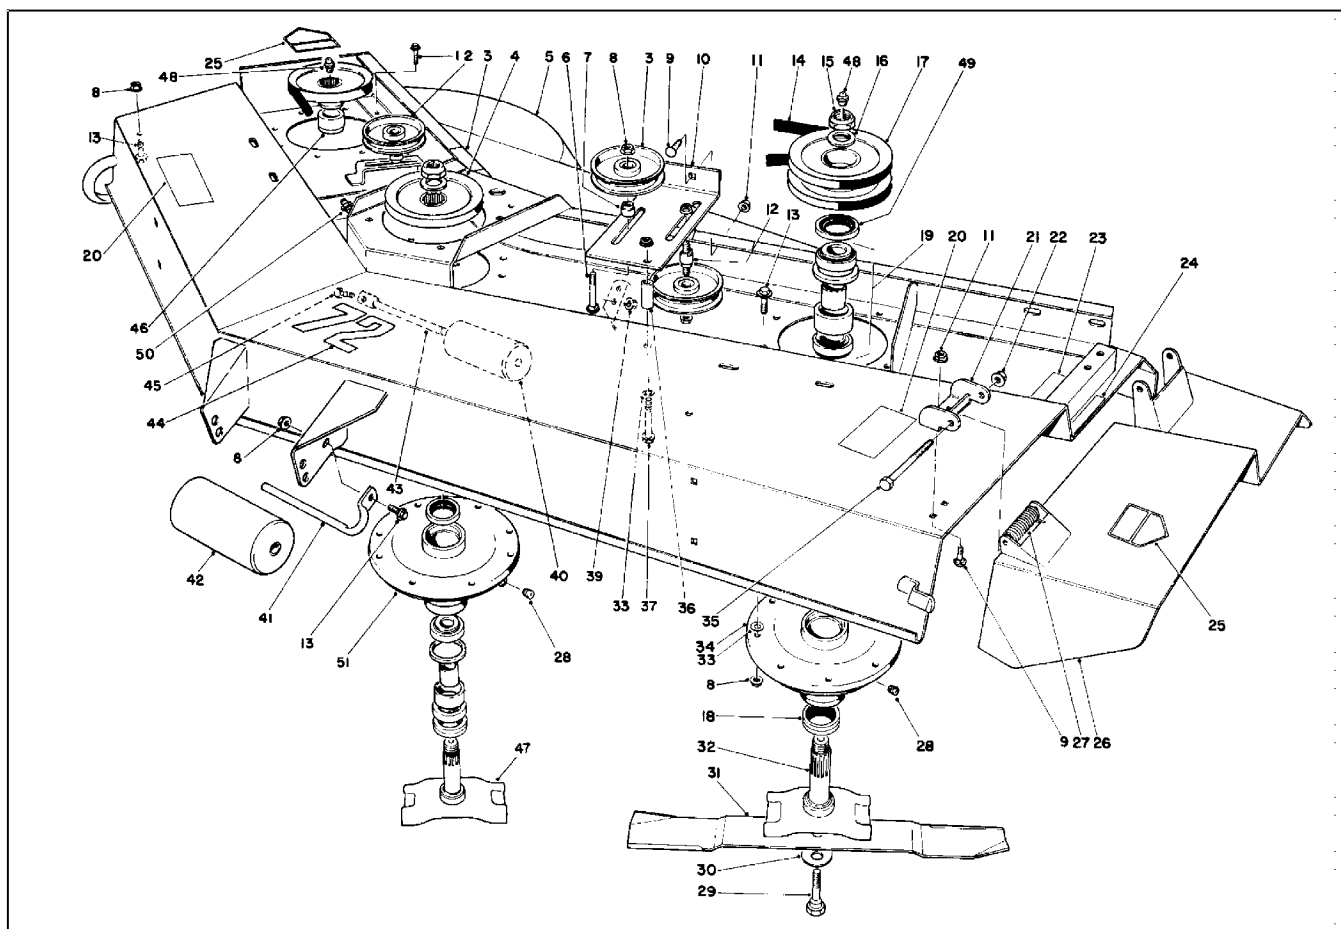
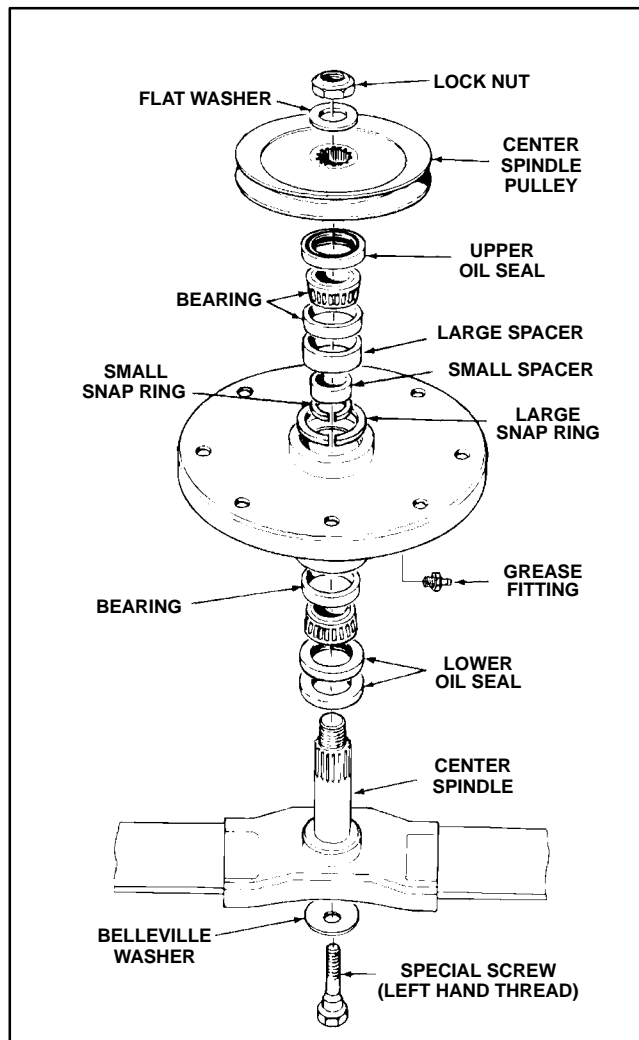

Figure 34
Figure 36
Blade Spindle Service (Fig. 34, 35, 36, 37, 38)
9. The seals will be removed next; however, notice the orientation of the seal lips. The lips of the lower seals face outward. On spindle assemblies that have the grease fitting on the housing (shown in Fig. 36), the lip of the upper seal faces inward. On spindle assemblies that have the grease fitting on the top of the spindle shaft (shown in Fig. 34), the lip of the upper seal faces outward. After noting orientation of seals, remove seals from the spindle housing.
6. Slide the small, thick spacer into the spindle housing. Then, install the upper bearing and seal into the top of the spindle housing. On spindle assemblies that have the grease fitting on the housing (shown in Fig. 36), the lip of the upper seal faces inward. On spindle assemblies that have the grease fitting on the top of the spindle shaft (shown in Fig. 34), the lip of the upper seal faces outward.
9. Slide the pulley end of the spindle assembly through the hole in the cutting unit. Mount the spindle assembly in place with the eight (8) hex flange head bolts and flange nuts.